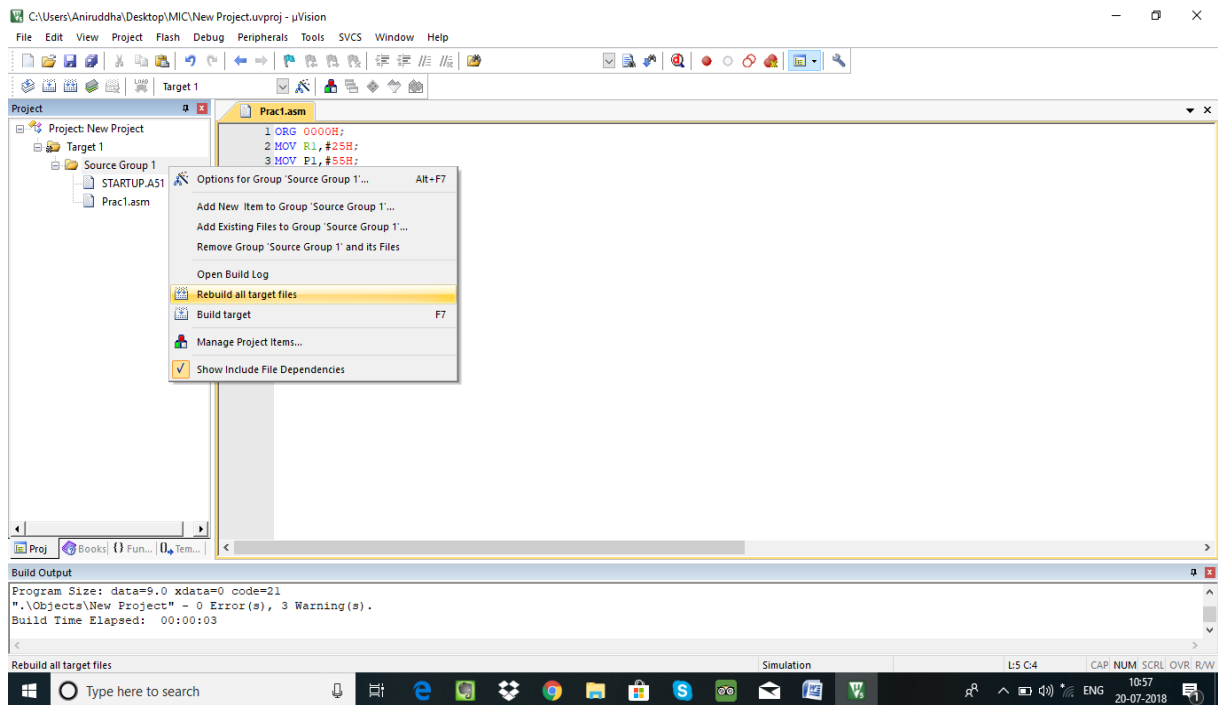

Figure.15
2. Right click source group 1 and Click on Build target files or Rebuild target or press F7. Fig 15
3. Output window will display the errors if any, if there are some errors then remove the errors and repeat step number 2 until no errors. Fig 15